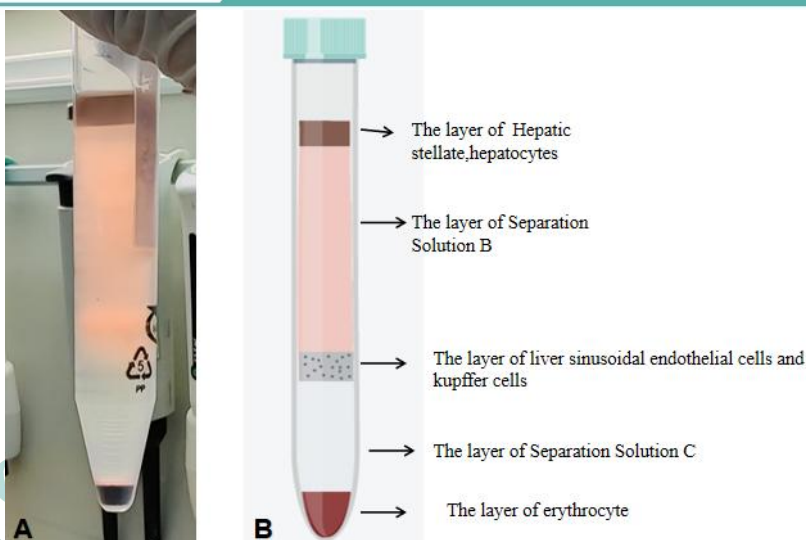

Figure 4. Reference image of cell suspension after centrifugation with Separation solution
- (6) After stratification, centrifuge tube at 900 g for 15 minutes (set the acceleration to 1 and the decelerate to 0); After centrifugation, the liquid can be seen to be divided into 5 layers, from top to bottom: the top layer is approximately 2-5 mm thick hepatic stellate cells and hepatocytes layer, the second layer is approximately 6 mL Separation solution B, the third one is approximately 2-3 mm thick, liver sinusoidal endothelial and kupffer mixed cells (hereinafter referred to as the white membrane layer), the fourth is approximately 3 mL Separation solution C, and the bottom layer is approximately 2-5 mm thick red blood cell precipitation (as shown in Figure 4).
- (7) Discard the top layer of cells and use a 1 mL pipette tip above the white membrane layer. Carefully remove the cells from the third layer of white membrane layer into a new sterile 15 mL centrifuge tube, add 5 mL of **Specialized Washing Solution For Rat Kupffer Cells** to resuspend the cell suspension, centrifuge at 400 g for 5 min, discard the supernatant, and retain the precipitate.
- (8) Resuspend 5 mL of **Complete Culture Medium for Rat Kupffer Cells** and seeding it into a new 6 cm culture dish.
- (9) Incubate in a 5% CO₂ incubator at 37°C for 25 minutes, then transfer the supernatant to a new culture dish. Add 5 mL of fresh **Complete Culture Medium for Rat Kupffer Cells** to the original culture dish and continue culturing at 37°C for 25 minutes.
- (10) Transfer the transferred supernatant again to a new dish, add fresh complete culture medium to the original dish, and repeat this transfer process 1-2 times.
- (11) After differential adhesion, most of the kupffer cells exist in the dish seeded in step 8, while the rest of the dishes only have a small or partial amount of kupffer cells, which can be selected according to the specific cell purity and cell quantity.
- (12) After 48 hours of cultivation, collect the target cells and rapidly digest them with 0.25% trypsin for about 1 minute. Discard the first digested cells, which may contain loosely adherent liver sinusoidal endothelial cells. Gently rinse the bottom of the dish with a **Specialized Washing Solution For Rat Kupffer Cells**, discard the solution, add fresh complete culture medium, and change the medium every 2-3 days thereafter.
(13) Cell digestion: It is generally not recommended to perform digestion and passage operations on kupffer cells.